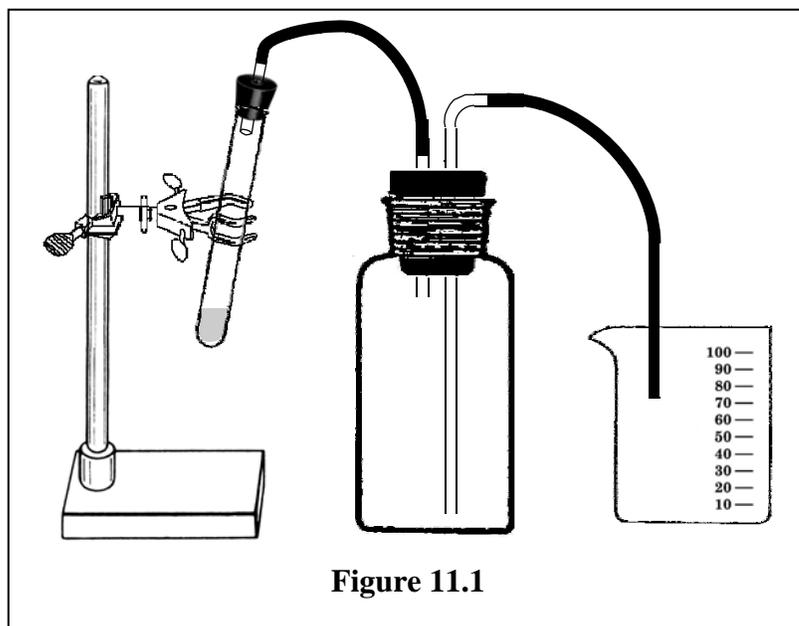

Figure 11.1
2. Mix well. Mount the test tube as shown in Figure 11.1.